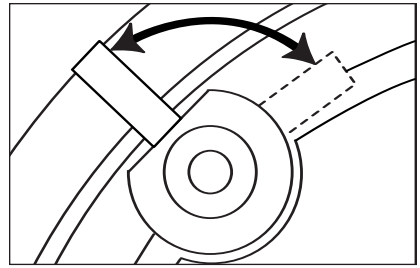

Figure 16 Tightening the mounting "dogs"
3. The DS6.3, DS6.5 and DS6.7 feature a separate frame assembly which installs with four clamps or mounting "dogs" which hold the frame in place. The dogs are tightened via four front-baffle screws. Tighten the dogs by turning the screws clockwise. **DO NOT OVERTIGHTEN THESE SCREWS.** Over-tightening the clamps may make the grille difficult to install. **(See Figure 16)**.